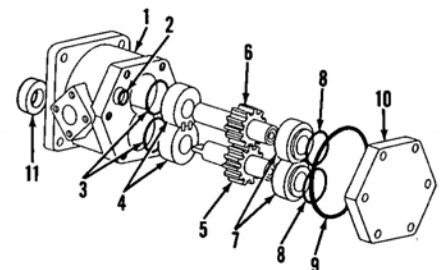

Fig. 98—Exploded view of hydraulic gear pump.
96. OVERHAUL. Remove the six screws securing end cover (10—Fig. 98), then separate end cover (10) from pump body (1). Remove "O" rings (2, 8 and 9). Extract outer bushings (7). Remove idler gear (6) and drive gear (5) by lightly tapping shaft end of drive gear (5) with a suitable mallet.
Remove inner bushings (4—Fig. 98) and "O" rings (3). Remove oil seal (11).